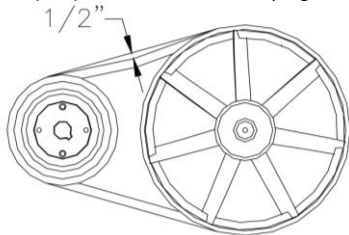

Figure 4
7. Check for proper belt tension. (Figure 4)